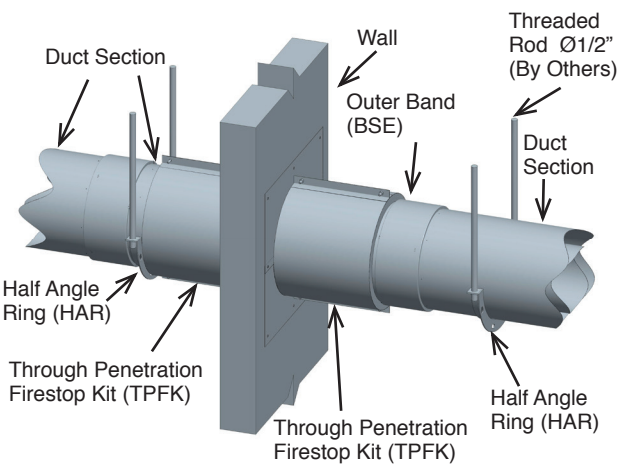
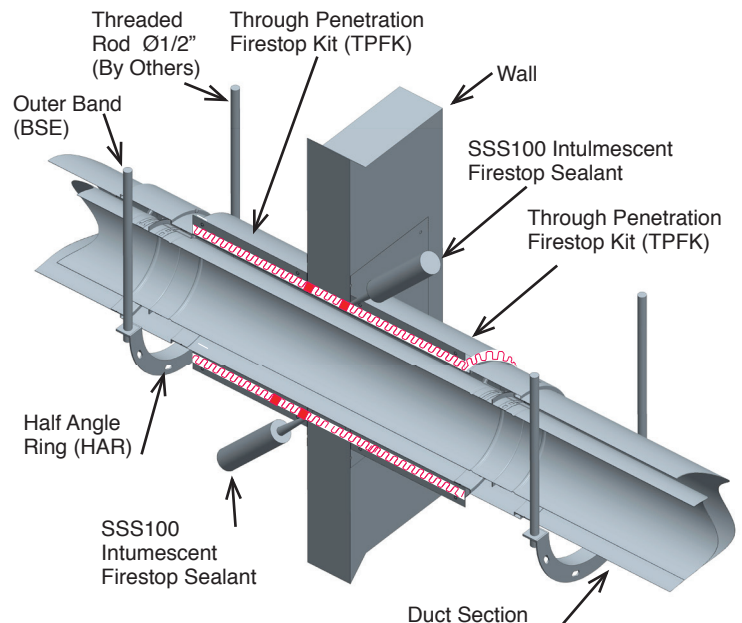

Figure 108: Supports for duct through fire-rated wall (DIS3Z only)
Figure 111: TPFK Assembled Through a fire-rated Wall (DIS3Z only)
Ducts that penetrate a fire-resistance wall (up to 2hr fire-rated) have to be supported on both side of the wall. It can either be supported by bracing a HAR, a AP or APL. See **Figure 108**.
- For Wall Penetration, use two TPFK's. See **Figure 111** and **Figure 108**.
NOTE: The cover plates, wrap insulation and split closure bands are installed on the top surface of a floor penetration and on both surfaces of a wall penetration. See **Figure 111** for the penetration through a wall.